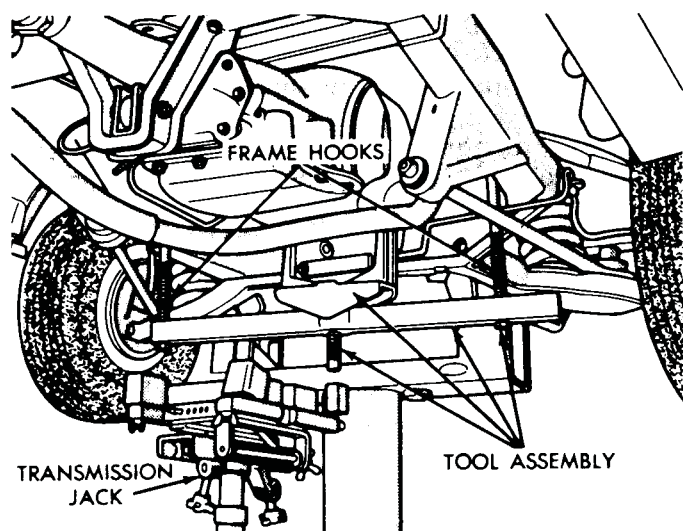

Fig. 1—Engine Support Fixture (Typical)
(15) Disconnect throttle rod from lever at the left side of transmission. Remove linkage bellcrank from transmission, if so equipped.
(16) Remove oil filler tube and speedometer cable.
(17) Install engine support fixture, Tool C-3487-A with frame hooks or a suitable substitute, that will support rear of the engine (Fig. 1).
(18) Raise transmission slightly with service jack to relieve load on the supports.
(19) Remove bolts securing transmission mount to crossmember and crossmember to frame, then remove crossmember.
(20) Remove all bell housing bolts.
(21) Carefully work transmission and torque converter assembly rearward off engine block dowels and disengage torque converter hub from end of crankshaft. **Attach a small C-clamp to edge of bell housing to hold torque converter in place during transmission removal.**
(22) Lower transmission and remove assembly from under the vehicle.